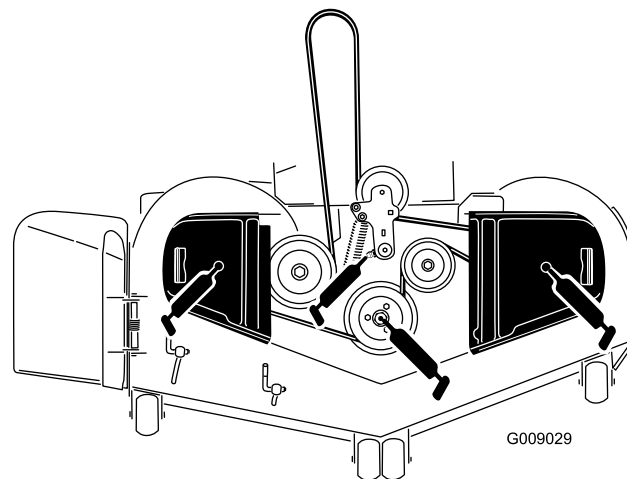

Figure 43
3. Grease the mower deck idler-pulley pivot until grease come out the bottom (Figure 43).
4. Grease the 3 spindle bearings until grease comes out (Figure 43).